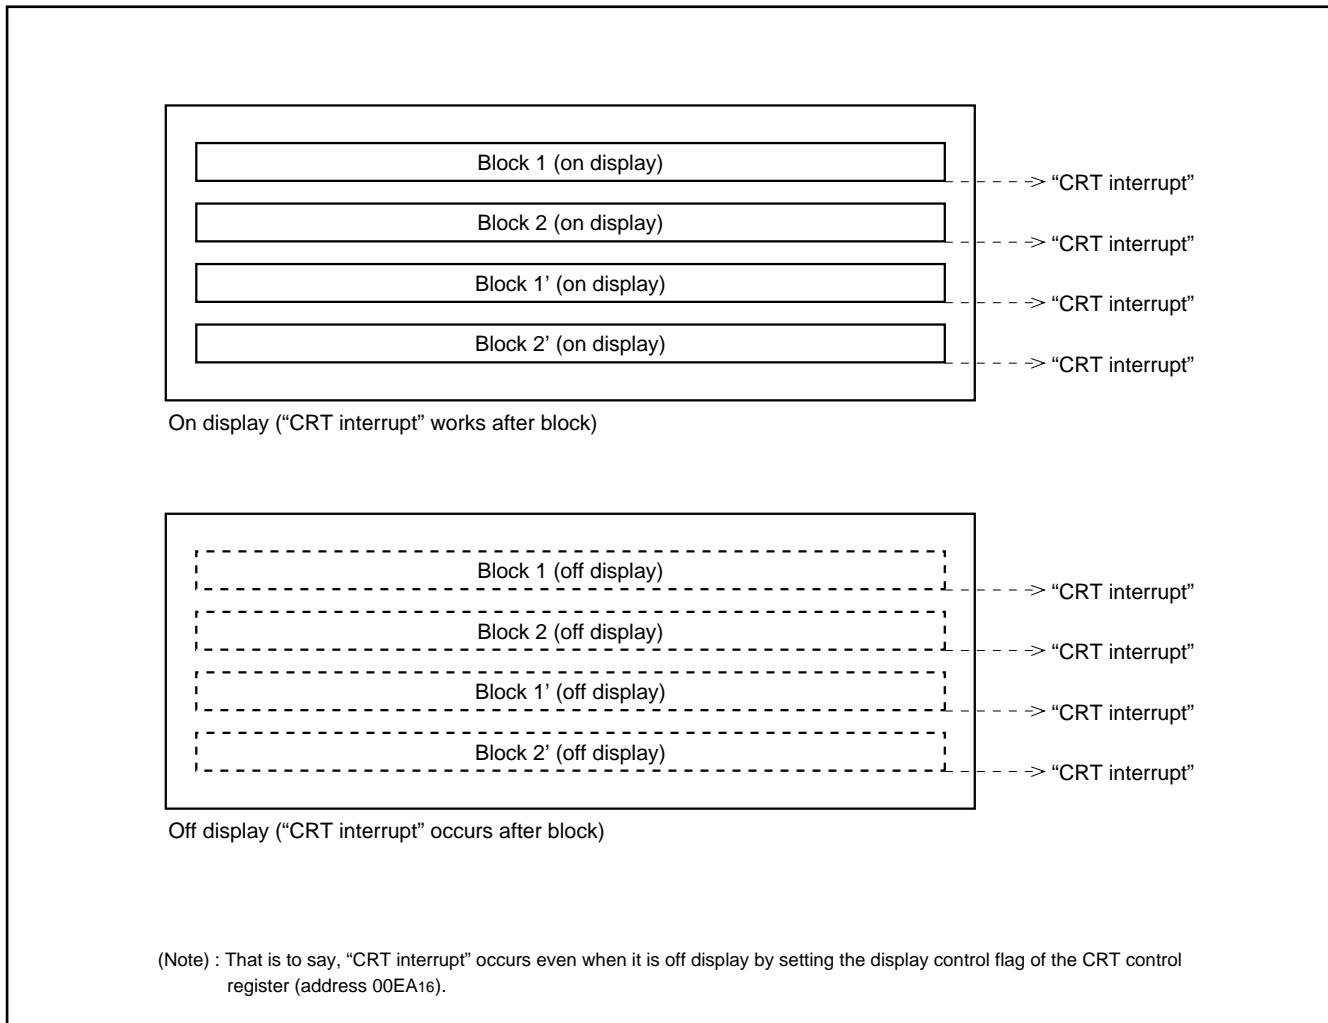

Fig. 30 Timing of CRT interrupt
**Note :** A CRT interrupt does not occur at the end of display regardless of display on or off. In other words, even if a block is set to off display with the display control bit of the CRT control register (address 00EA16), a CRT interrupt request occurs (refer to Figure 30).